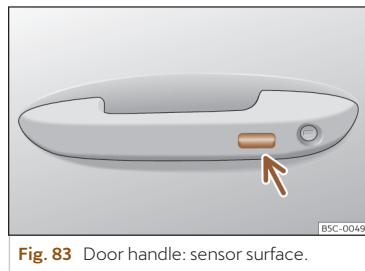

Fig. 83 Door handle: sensor surface.
- **OR:** using the Keyless Access system (only locking): Press and hold the locking sensor surface >>> **Fig. 83** (arrow) on the door handle for several seconds to close the windows and the sunroof. If you release the sensor surface, the closing movement stops.
Press and hold the locking sensor surface >>> Fig. 83 (arrow) on the door handle to close the sunroof. If you release the sensor surface, the closing movement stops.